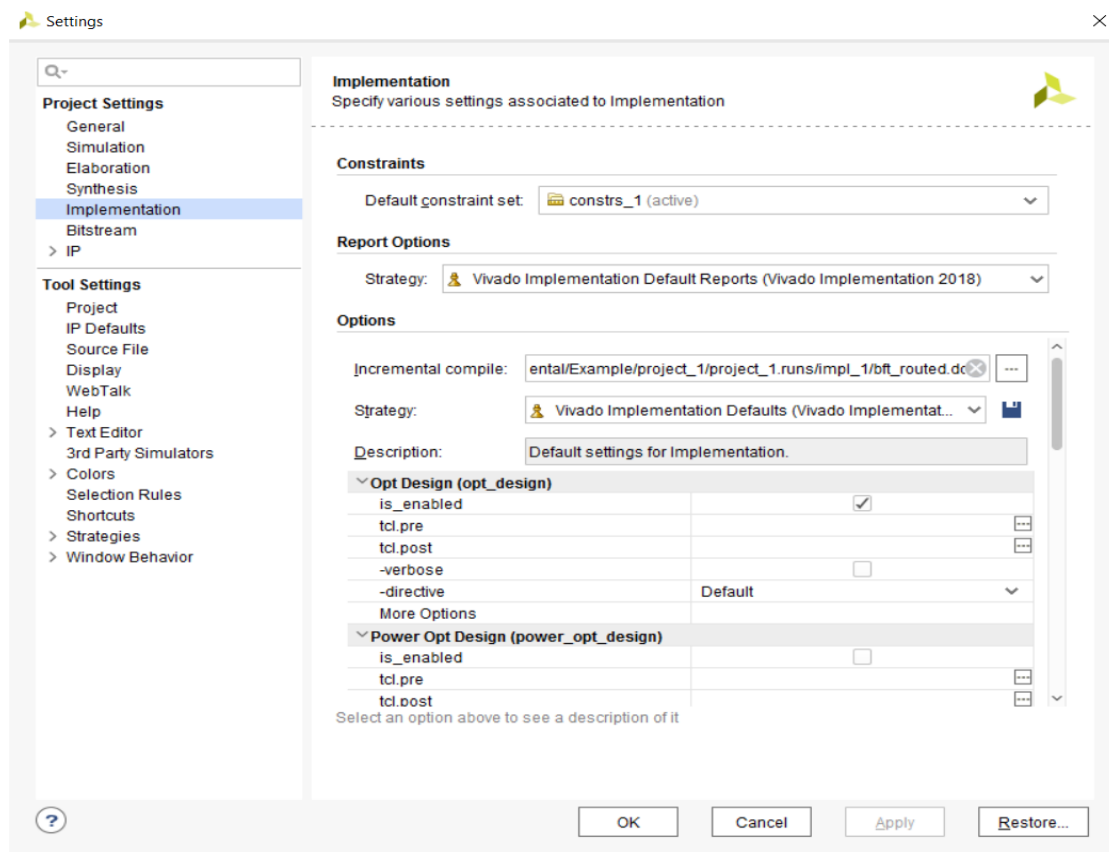

Figure 2-23: Setting Incremental Compile
3. In the Incremental Compile, specify a reference design checkpoint as shown in Figure 2-23.